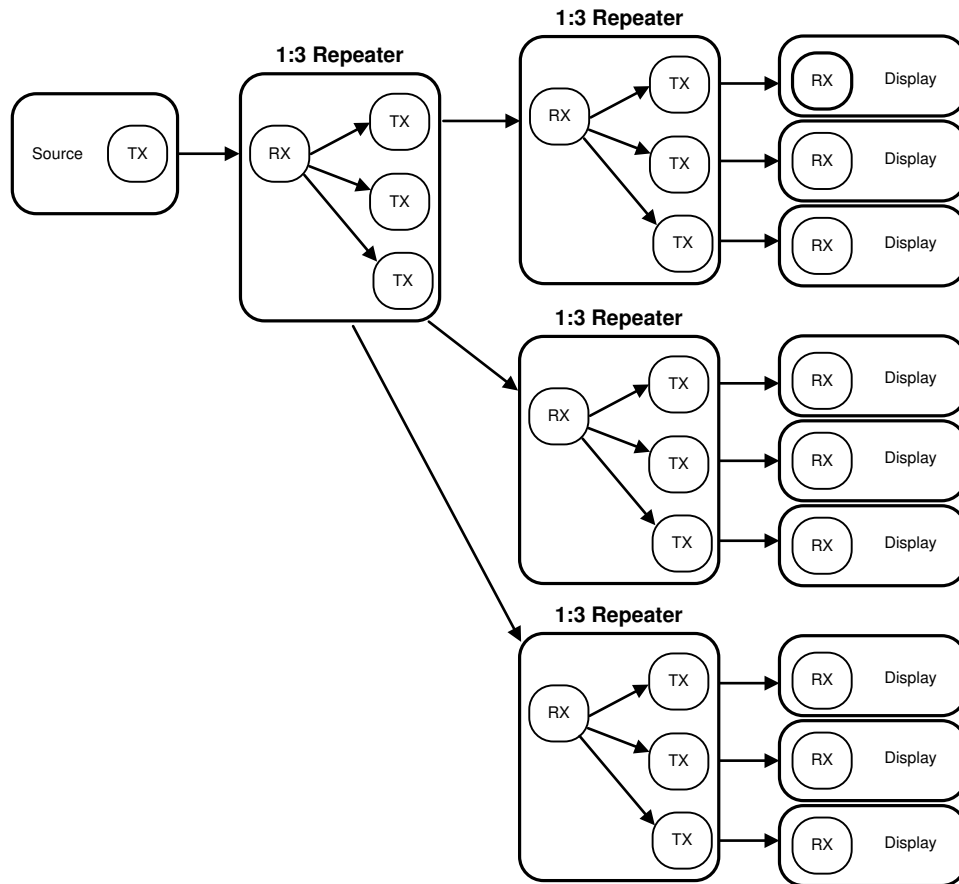

图 7-9. HDCP Maximum Repeater Application
In the HDCP repeater application, this document refers to the DS90UH947-Q1 as the HDCP transmitter (TX), and refers to the DS90UH948-Q1 as the HDCP receiver (RX). 图 7-9 shows the maximum configuration supported for HDCP repeater implementations. Two levels of HDCP repeaters are supported with a maximum of three HDCP Transmitters per HDCP receiver.